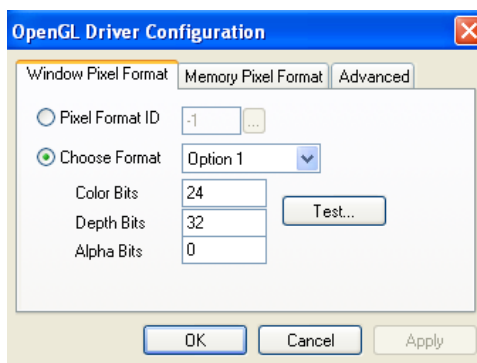

Figure 5-94 *OpenGL Driver Configuration* dialog box
4. In the *OpenGL Driver Configuration* dialog box (Figure 5-94), select Pixel Format ID and enter this number.